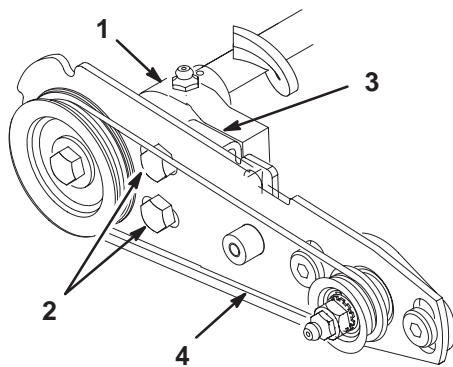

Figure 8
12. Install the drive belt (Fig. 8) and adjust the belt tension as follows:
13. Adjust the axial movement of the brush shaft (Fig. 8) as follows: